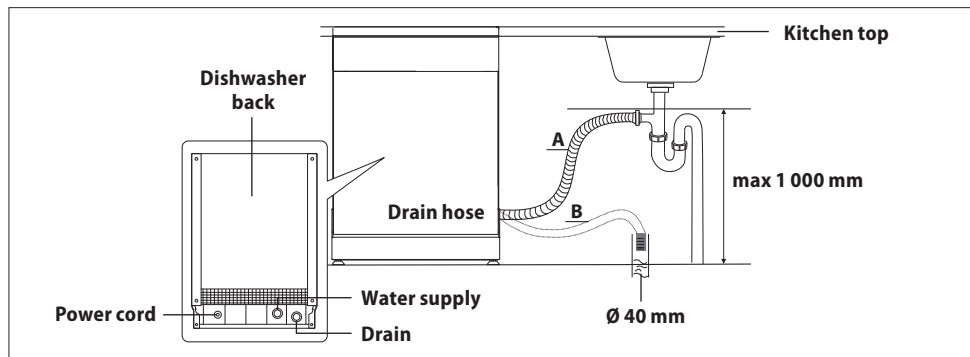

Fig. 18
- Connect the drain hose according to Fig. 18.
Connect the drain hose to the waste pipe with a minimum diameter: 40 mm (Fig. 18). Make sure the drain hose is not bent or squeezed to prevent slowing down or stopping of the water flow.